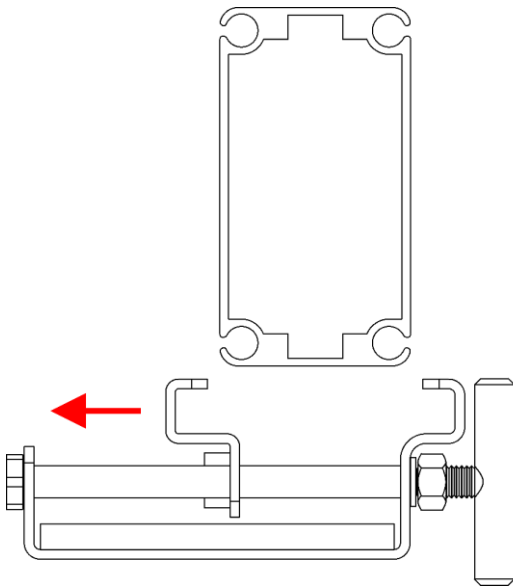

Fig. 04
- 01) Turn the **handle nut (03)** counterclockwise until both **clamp arms (04/05)** fit in the grooves of the keder track aluminum profile (Fig. 04).